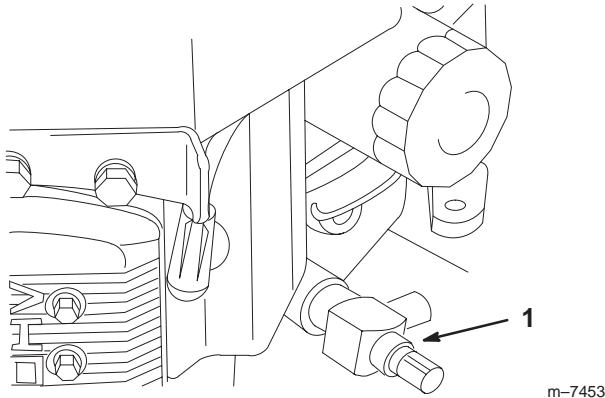

Figure 30
6. Place a pan below the drain hose. Rotate oil drain valve to allow oil to drain (Fig. 30).
8. Remove the drain hose (Fig. 30).